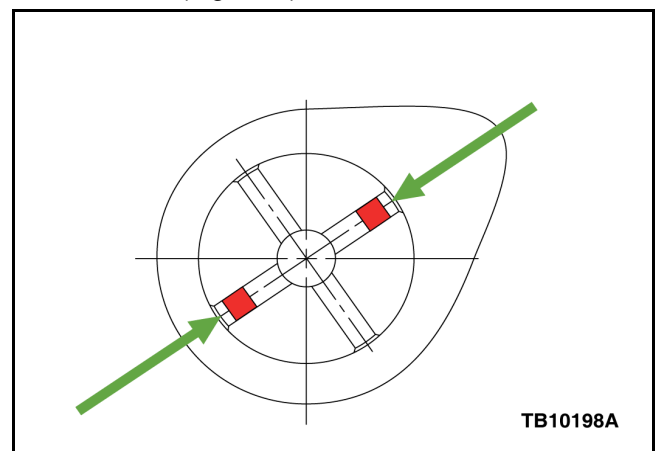

Figure 2 - Article 12-1-17
5. Use the pin gage provided in the service kit, determine the correct color cup plug to be installed. (Figure 2)